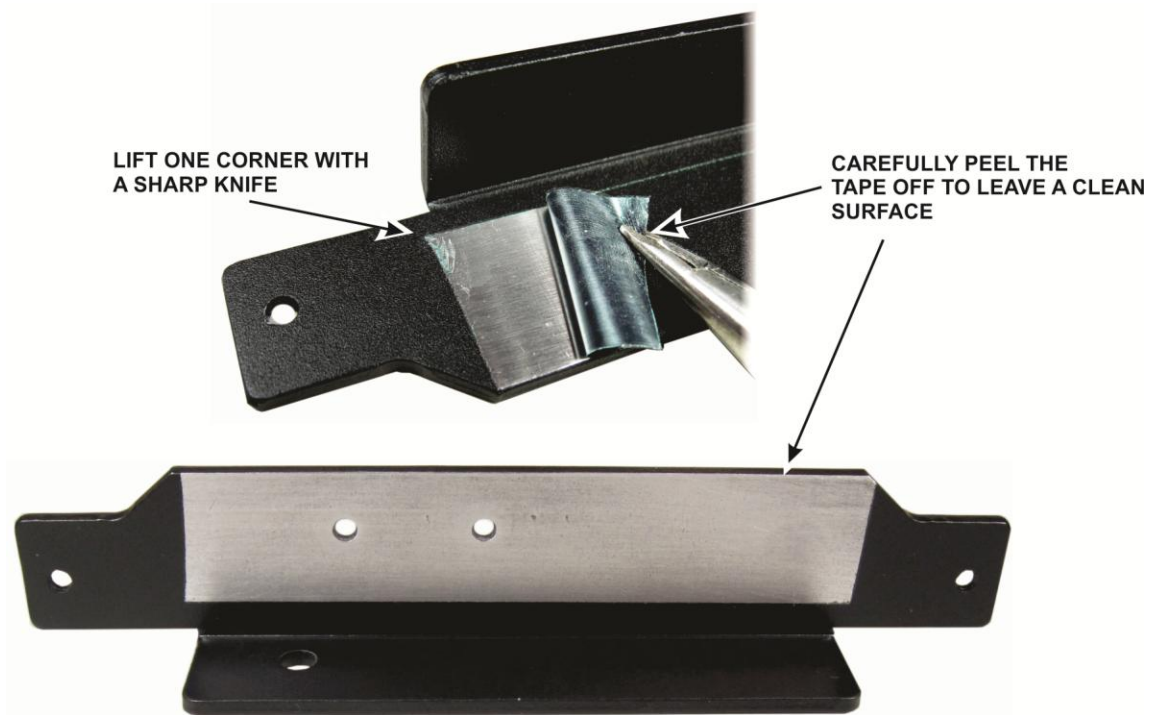

Figure 3. Removing Tape from the Heat Sink.
□ If you haven't done so already, remove the new heat sink from the paper wrapper. The side of the heat sink that will face the KX3 has been masked keep it free of the powder coating (see Figure 3). Remove the masking tape covering this area of the heat sink. The tape is strong. You can peel up one corner with a sharp tool and then pull the tape off of the metal as shown in the figure.